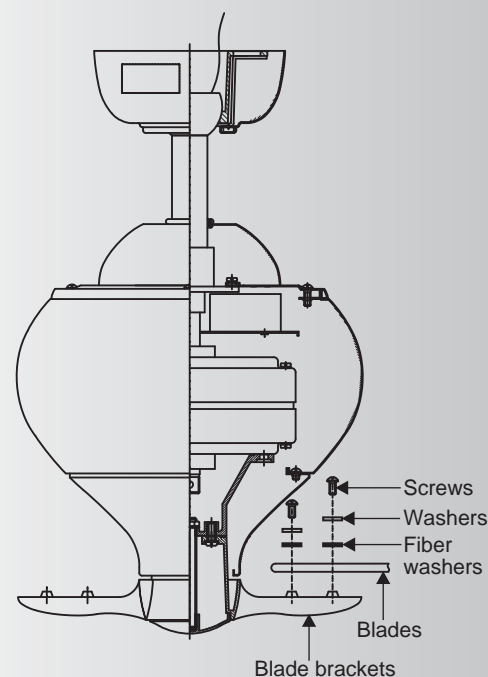

Fig. 16
Step 1. Attach a blade to a blade bracket using the screws, metal washers and fiber washers provided. (Fig. 16)